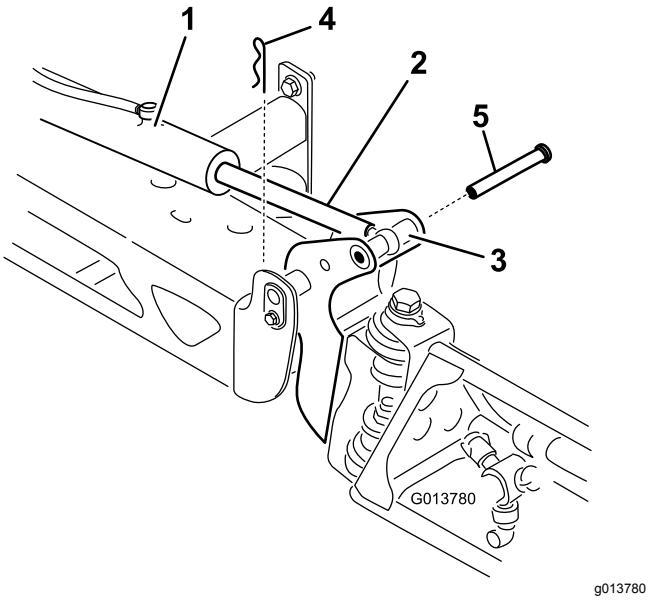

Figure 93
2. Remove the cotter pin from the pivot pin (Figure 93).
3. Lift up on the boom and remove the pin (Figure 93), and slowly lower the boom to the ground.
9. While holding the boom, insert the pin through both boom pivot and actuator rod (Figure 93).